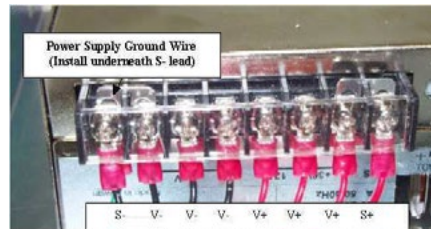

Figure 2 - Top Wiring Block (Wire Leads from Power Interface Harness)
5. Connect the leads of the power supply interface harness (coming from white 8 position connector above switch) to the top wiring block on the side of the power supply as shown in Figure 2 above. The labels shown are also marked with tags on the harness itself. The V+ and V- leads are interchangeable with any of the other leads having the same labeling (V+ or V-).